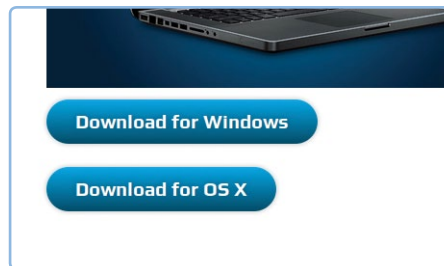

Figure 1-9: Select your operating system. When you download the software, choose the newest version available.
2. On the next page, select your operating system (see Figure 1-9). For Windows XP, Windows Vista, Windows 7, Windows 8, and Windows 10, click **Download for Windows**, and save the installation file to your computer when asked. For Mac OS 10.6 and higher, choose **Download for OS X**.